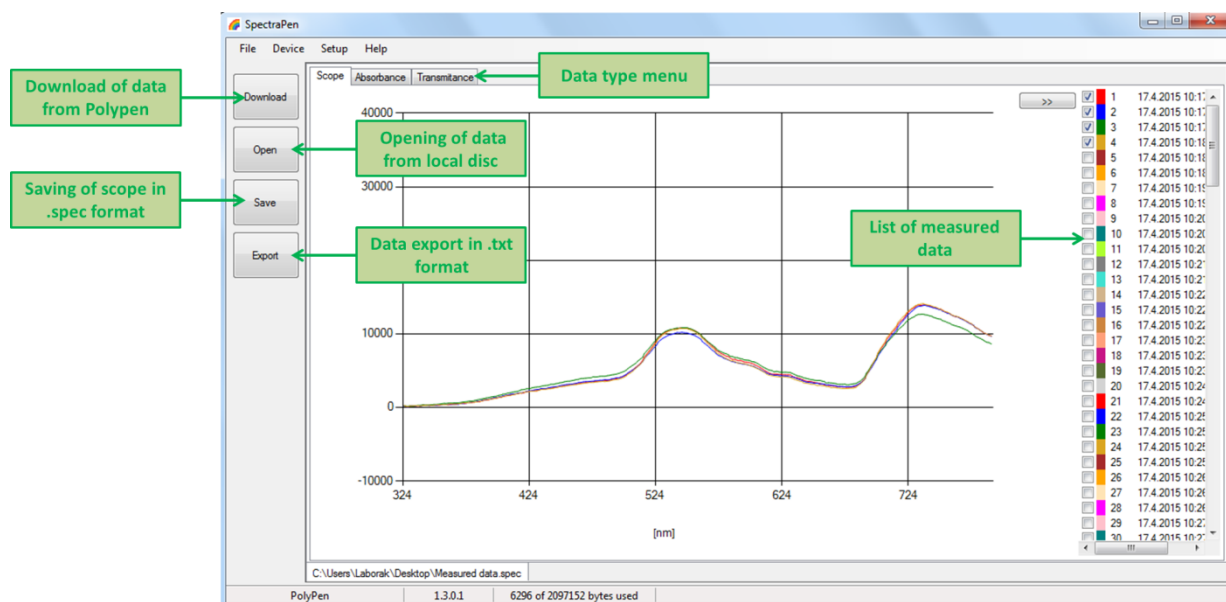
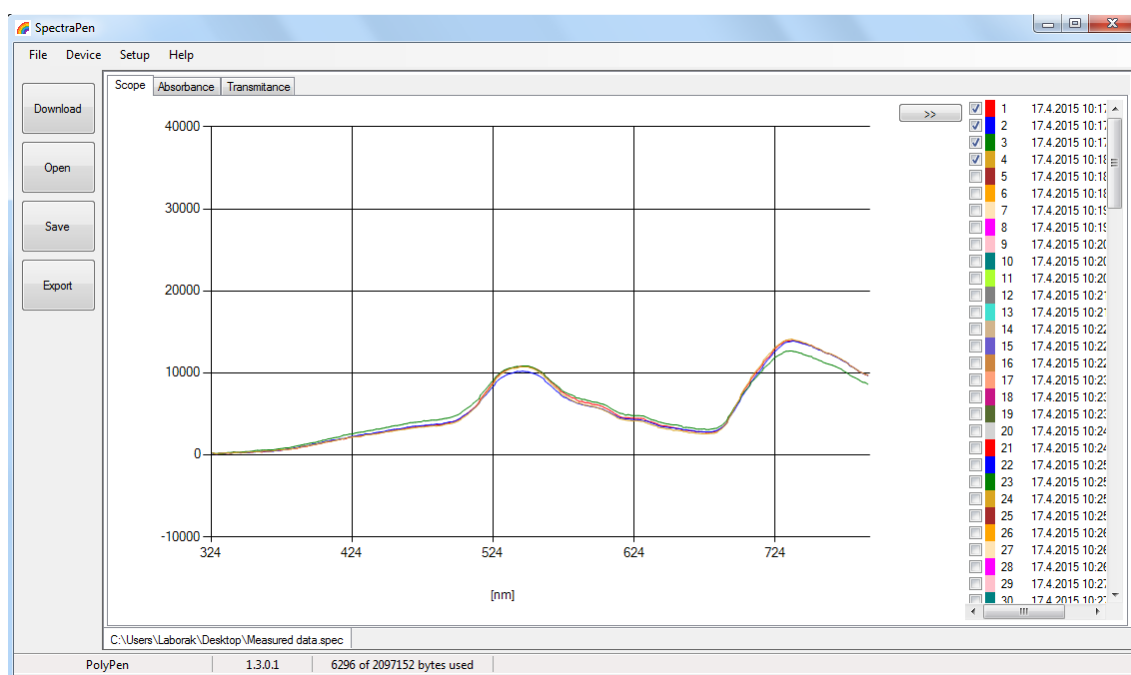
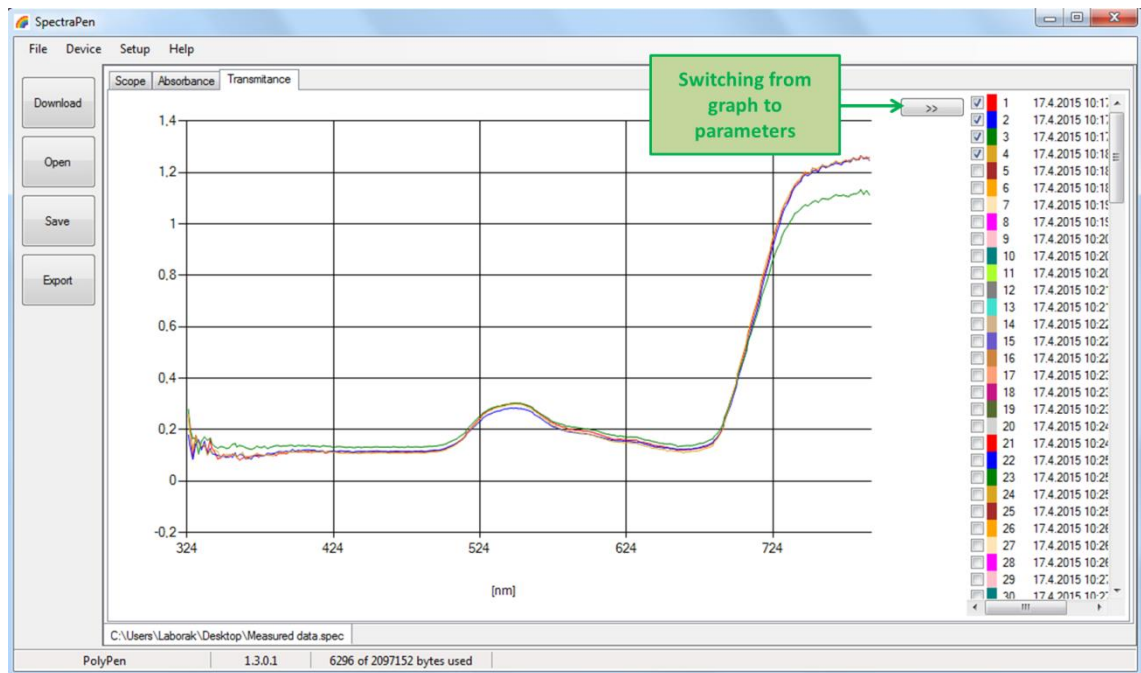
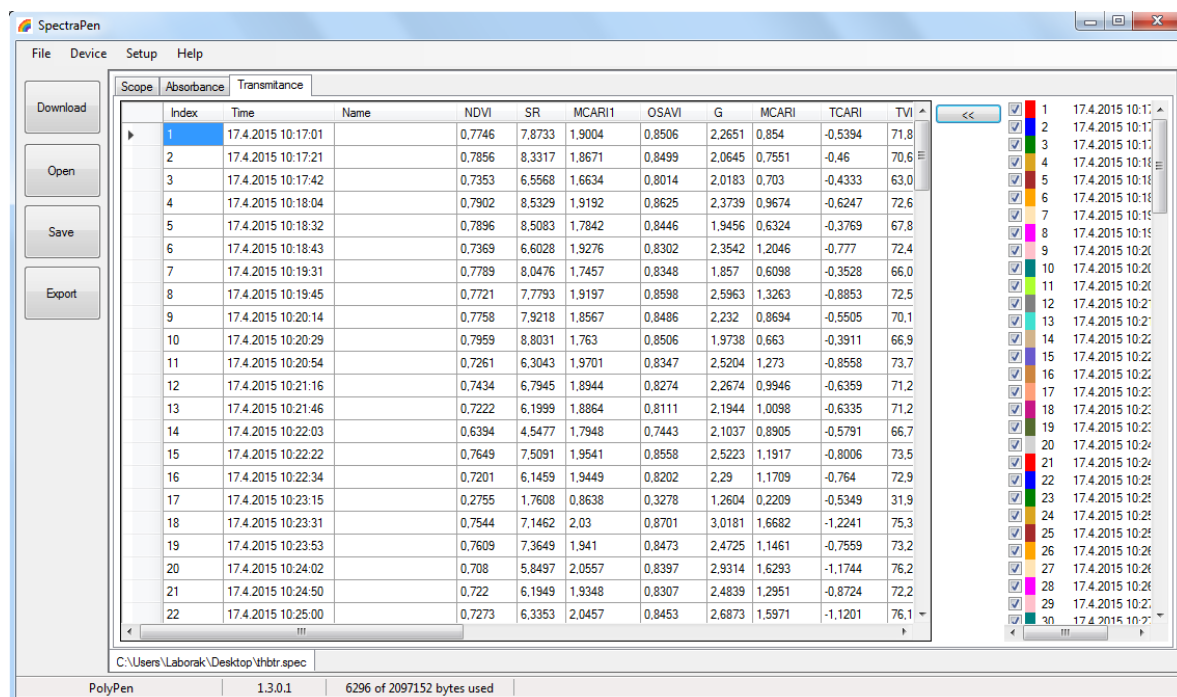

Fig. 19 Scope spectra
Fig. 20 Absorbance
Fig. 21 Transmittance
Fig. 24 Transmittance – reflectance indexes
5. **Visualization modes:** **Scope** mode window is always displayed at the first (Fig. 19). To visualize the measured data in transmittance or absorbance mode, go to **Transmittance** or **Absorbance** bookmark (Fig. 20, Fig. 21).
6. All data, that are downloaded from PolyPen device, are displayed in the Scope window. The user can select the set of measurements to be displayed by marking and unmarking the data from the selection list (see Selection of data in the right side of the Fig. 19).
10. To view the spectral data in parameter values (Fig. 24) click to button with two arrows (Fig. 21). If you want to calculate your own index, you can do it from the raw data in Excel or you can add this formula to the Config/Formulas.txt in the PolyPen program folder. Syntax is very simple, for example: